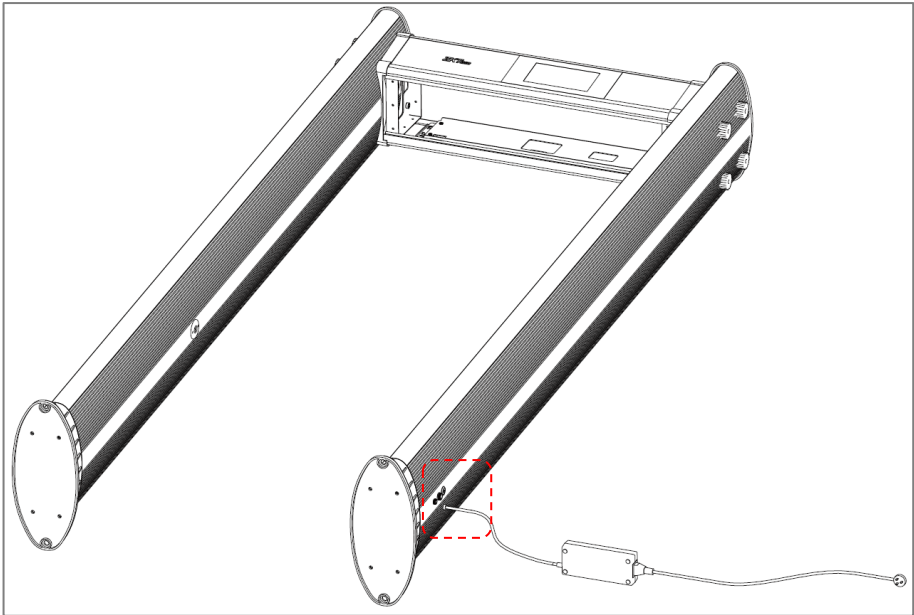

Figure 3-6
**Step 6:** Close the main box and connect the power line with the door panel, as shown in figure 3-6 below. (Both door panels have power line interface, please choose as needed)